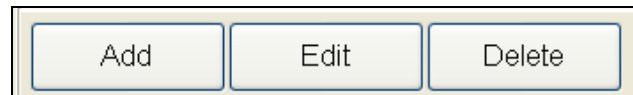

Figure 4.4.6
4. Click on the **Delete** button at the bottom of this window (Figure 4.4.6).